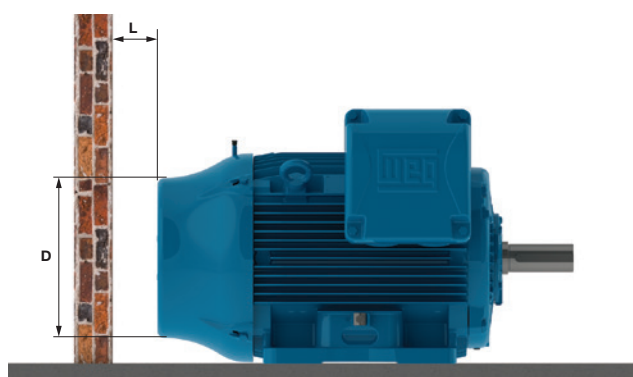

Figure 50 - Minimum clearance to the wall
- Ensure that the air inlet and outlet opening are not blocked. The minimum clearance to the nearest wall (L) should be at least $\frac{1}{4}$ of the fan cover diameter (D), see Figure 50. The intake air temperature must be at ambient temperature.